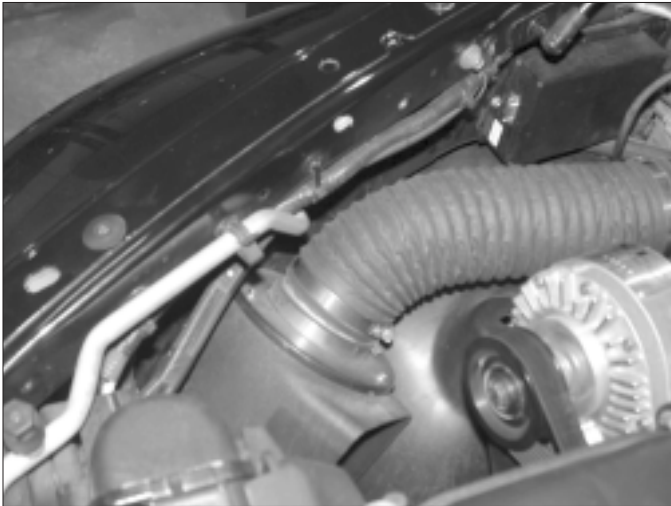

Fig. 5.2-c
- B.** Next, route the flex hose to the 180° elbow attached to the supercharger, and tighten the clamps. (See *Figs. 5.2-b, 5.2-c.*)